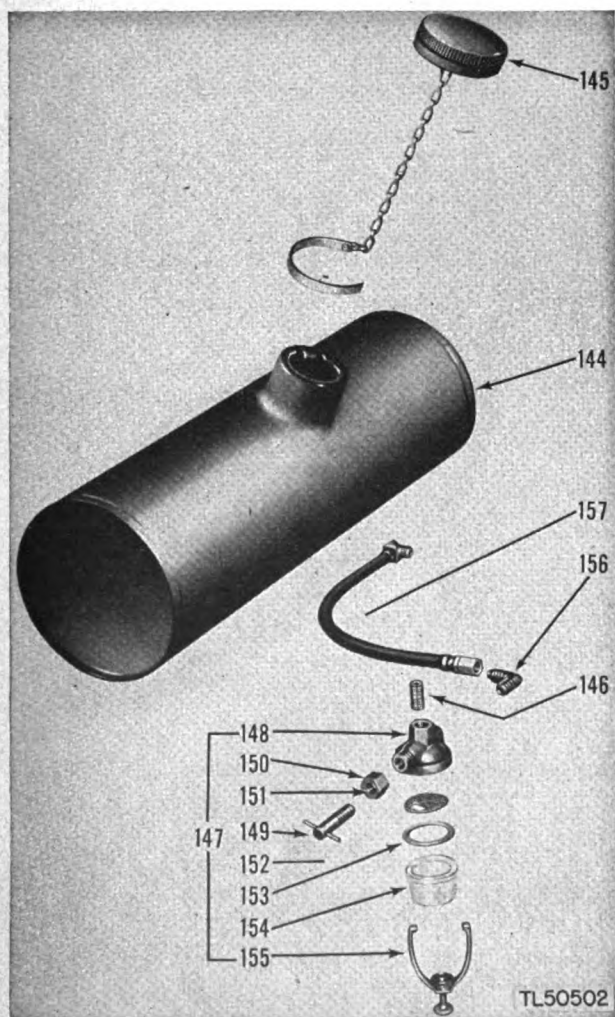

Figure 33. Fuel tank assembly—exploded view.
* FUEL TANK ASSEMBLY (fig. 33)